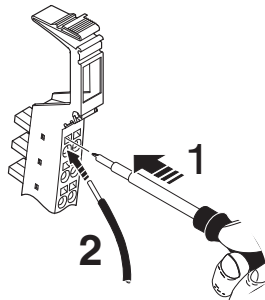

Figure 11-1 Connecting unshielded cables
- Push a screwdriver into the slot of the appropriate terminal point (Figure 11-1, detail 1), so that you can insert the wire into the spring opening. Phoenix Contact recommends using a SZF 1 - 0,6X3,5 screwdriver (Order No. 1204517).
- Insert the wire (Figure 11-1, detail 2). Remove the screwdriver from the opening. This clamps the wire.
- Push a screwdriver into the actuation shaft of the appropriate terminal point (Figure 11-1 on page 125, detail 1), so that you can insert the wire into the spring opening.
- Insert the wire (Figure 11-1 on page 125, detail 2). Remove the screwdriver from the opening. This clamps the wire.